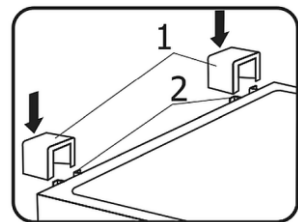

Fig. 4
8. Use two supports (1) and insert them in guides (2) in the top section of the rear wall (Fig. 4).